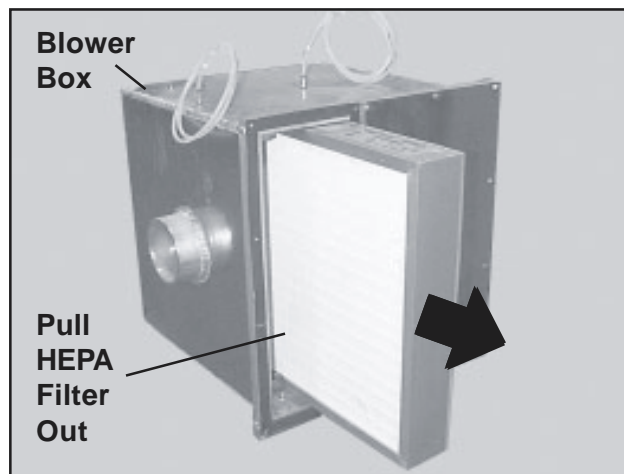

Figure 55. Removing the HEPA Filter
5. Pull out and discard the dirty filter (Figure 55).